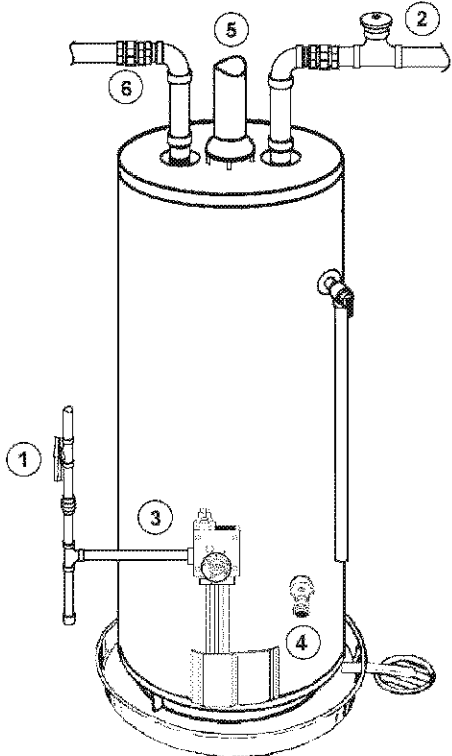

FIGURE 2.
If the main gas line Shut-off valve serving all gas appliances is used, also shut "OFF" the gas at each appliance. Leave all gas appliances shut "OFF" until the water heater installation is completed, see Figures 2 and 3.
- ② Turn "OFF" the water supply to the water heater at the water shut off valve or water meter. Some installations require that the water be turned off to the entire house, see Figures 2 and 4.
- ④ Attach a hose to the water heater drain valve and put the other end in a floor drain or outdoors. Open the water heater drain valve. Open a nearby hot water faucet which will relieve pressure in the water heater and speed draining. The water passing out of the drain valve may be extremely hot. To avoid being scalded, make sure all connections are tight and that the water flow is directed away from any person, see Figures 2 and 5.